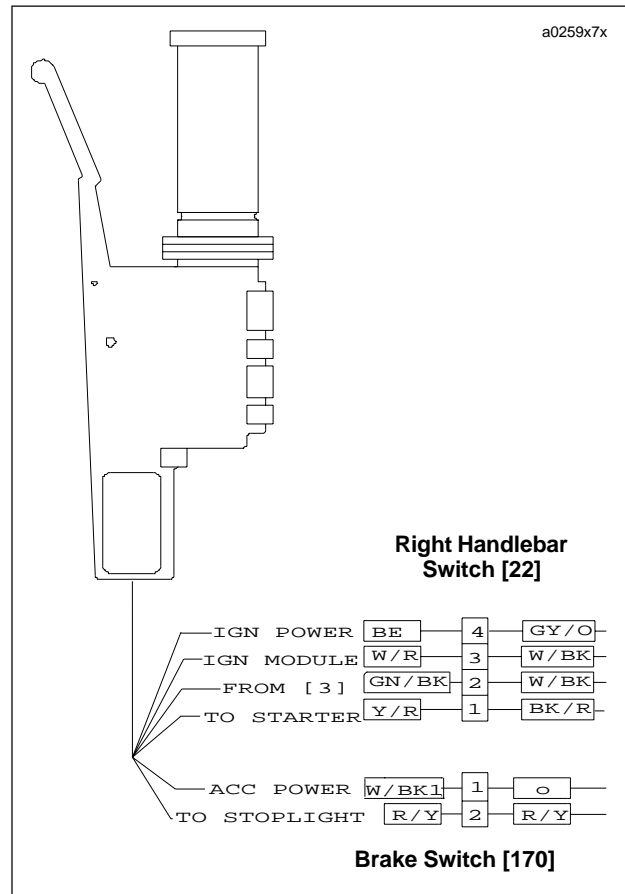

Figure 7-74. Right Handlebar Switch Connection
2. See Figure 7-74. Cut cable strap to access right handlebar switch connector [22] behind dash. Detach connector [22] from wiring harness.
3. See Figure 7-74. Route switch housing wiring harness between front forks. Attach connector [170] and connector [22] to wiring harness. Fasten wiring harness behind dash with **new** cable straps.